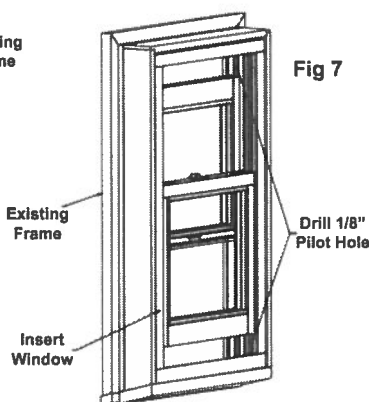

Fig 7
5. At the top of the exterior sash track, approximately 2-3" below the head jamb, there is a 1/8" pilot hole through the back of the jambliner pocket in each side jamb. Using this hole as a guide drill a 1/8" hole into the existing frame. See Figure 7.